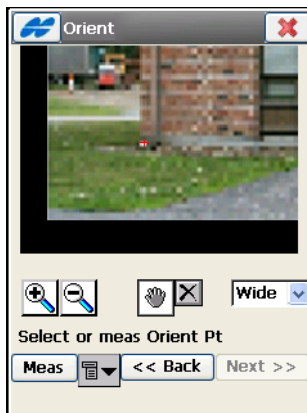

Figure 11-39. Select Orientation Point – Wide View
- The drop-down list in the bottom-left corner of the screen (next to the **Meas** button) contains two options to view the image (Figure 11-39 on page 11-37):